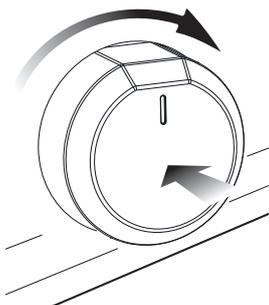

Fig. 3.4
**VERY IMPORTANT: ALWAYS LIGHTLY PRESS THE CONTROL KNOB WHEN TURNING THE FUNCTION KNOB FROM THE OFF POSITION (fig. 3.4).**